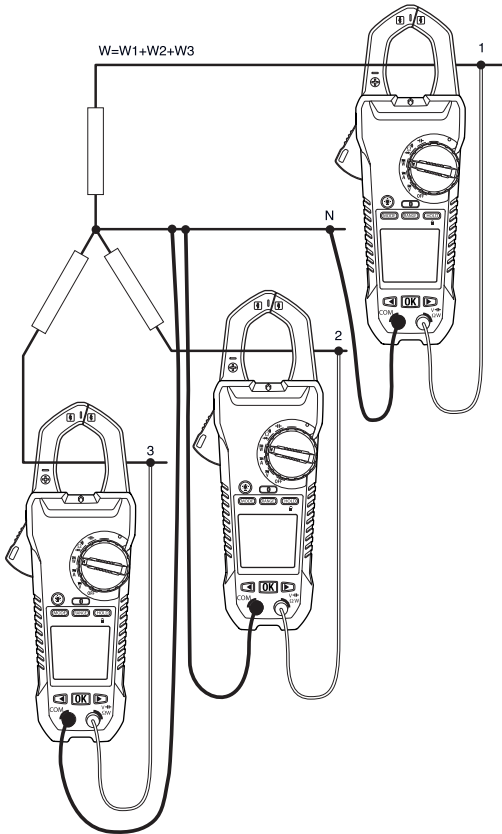

Figure 5.4 Three-phase four-wire measurements
The power of a three-phase four-wire configuration is measured in three steps, accordance with Figure 5.4. The total power is the sum of the three measurements: $W = W1 + W2 + W3$
3. Take three measurements of the active power, in accordance with Figure 5.4.